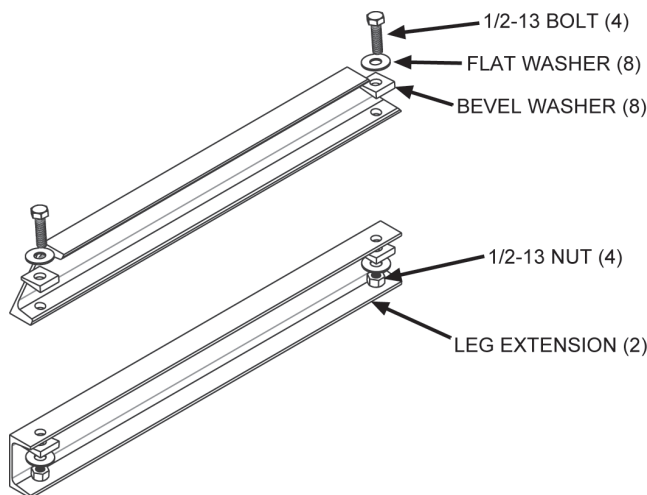

FIGURE 8.
2. Position the extension under leg aligning the holes in the leg extension with the holes in the leg. Assemble the bolt, bevel washers, flat washers, and nut through the aligned holes in the leg and leg extension as shown in Figure 8.